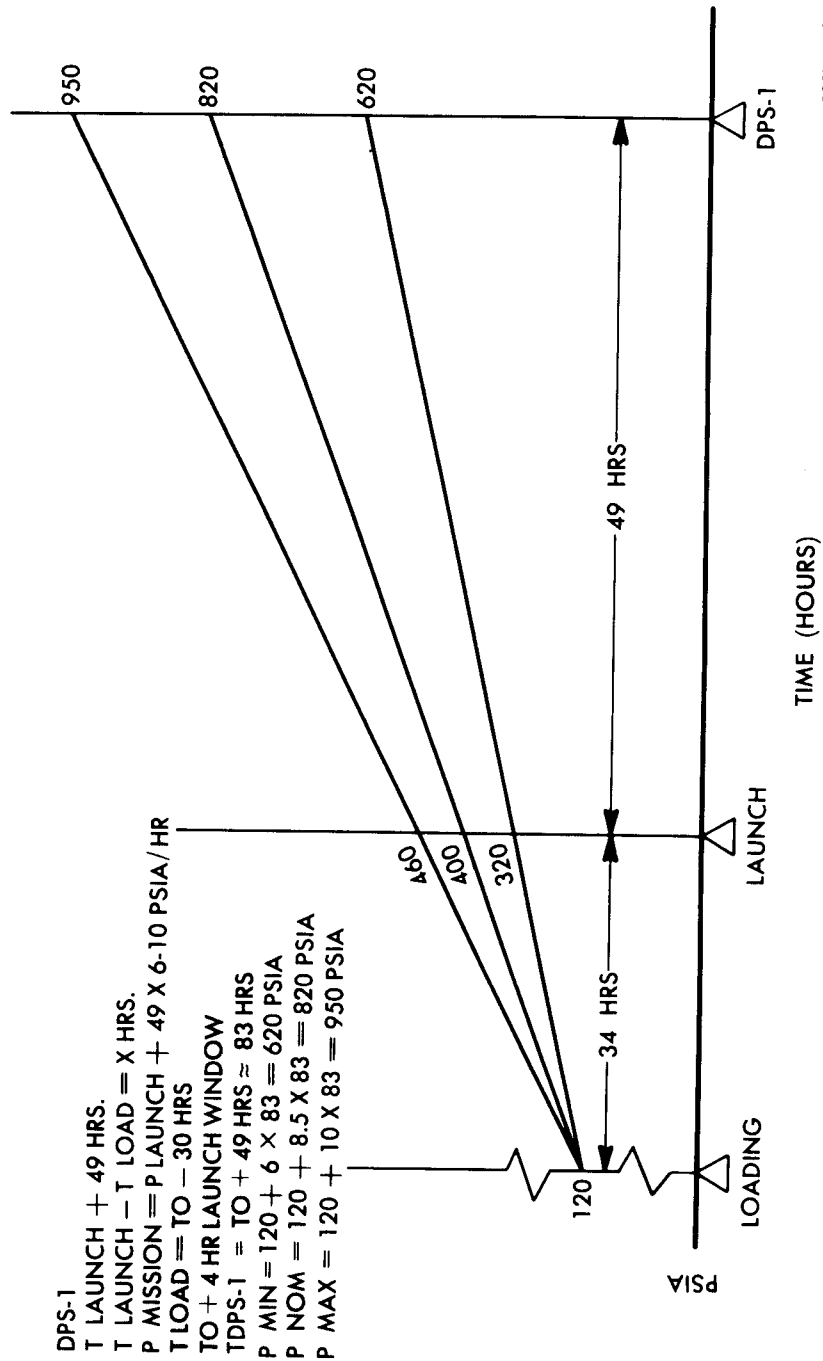

Figure 4-10. Theoretical Supercritical Helium Prepressurization
2. HELIUM MON sel - SUPCRIT PRESS MPS: HELIUM ind - 750 to 1320 psia	This pressure range is based on supercritical helium loading temperature of -453°F and mass of 48 pounds at 120 psia. Specific pressure before pressurization is function of total elapsed time from tank loading to pressurization, multiplied by expected pressure rise (6 to 10 psia/hr.) For other tank pressures, see figure 4-10. The supercritical helium tank burst-disk rupture pressure is 1881 to 1967 psia.